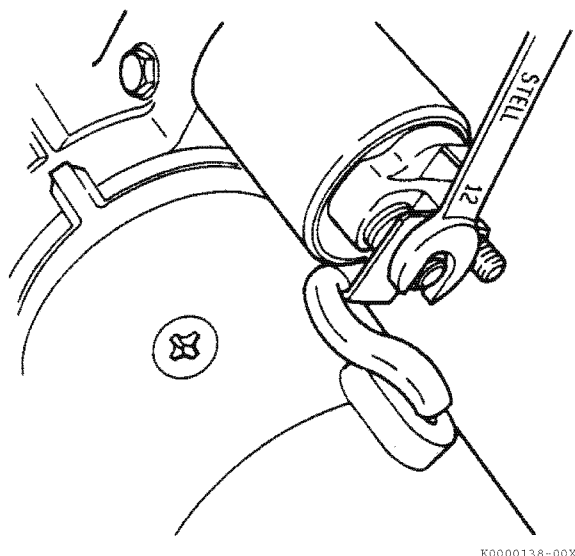

Figure 10-3
2. Disconnect the field wire from the solenoid switch (Figure 10-3).